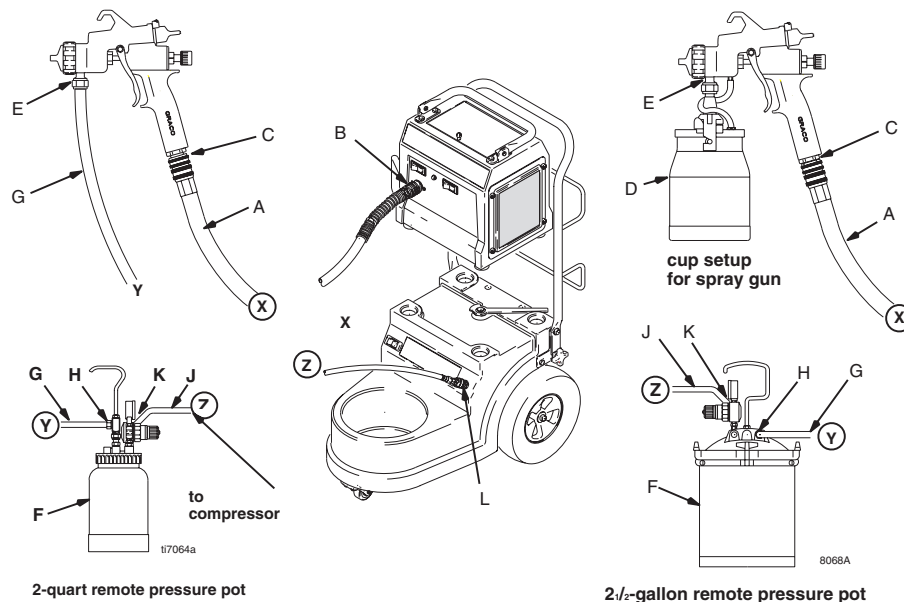

FIG. 12
- Circled letters in Fig. 12 indicate hose line connections.
- 1 Connect gun air supply hose (A) between turbine air outlet (B) and gun air inlet (C). DO NOT use wrench to tighten connections; hand tighten only. Fig. 12.
- 2 If using a spray gun cup (D): Connect cup to gun fluid inlet (E).